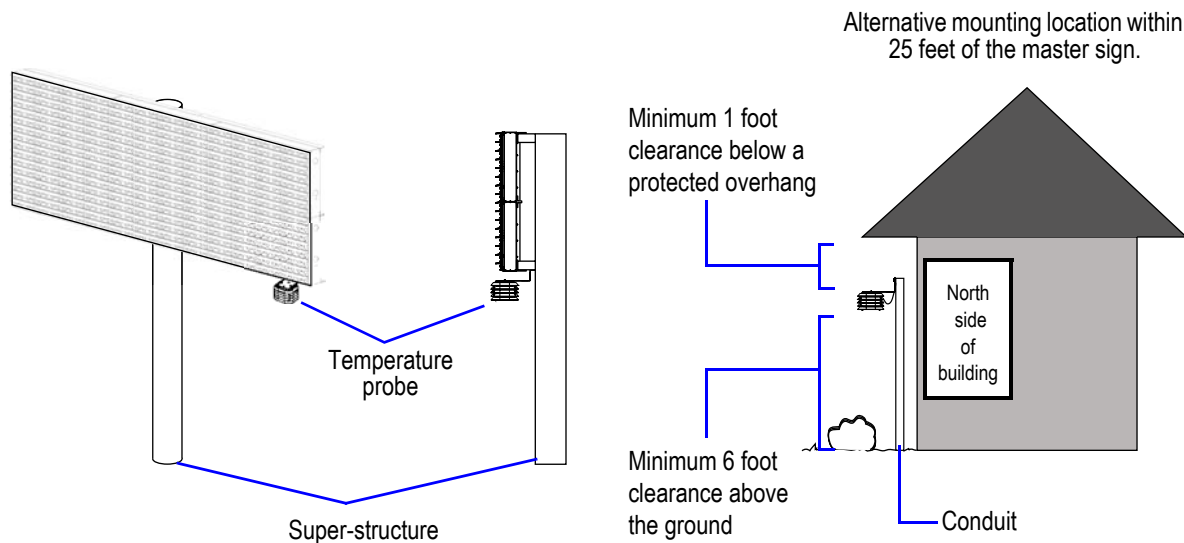

Figure 27. Provide temperature probe mounting locations.
- Vents on temperature probe **must** point downward. See Figure 27 on page 36 for proper orientation.